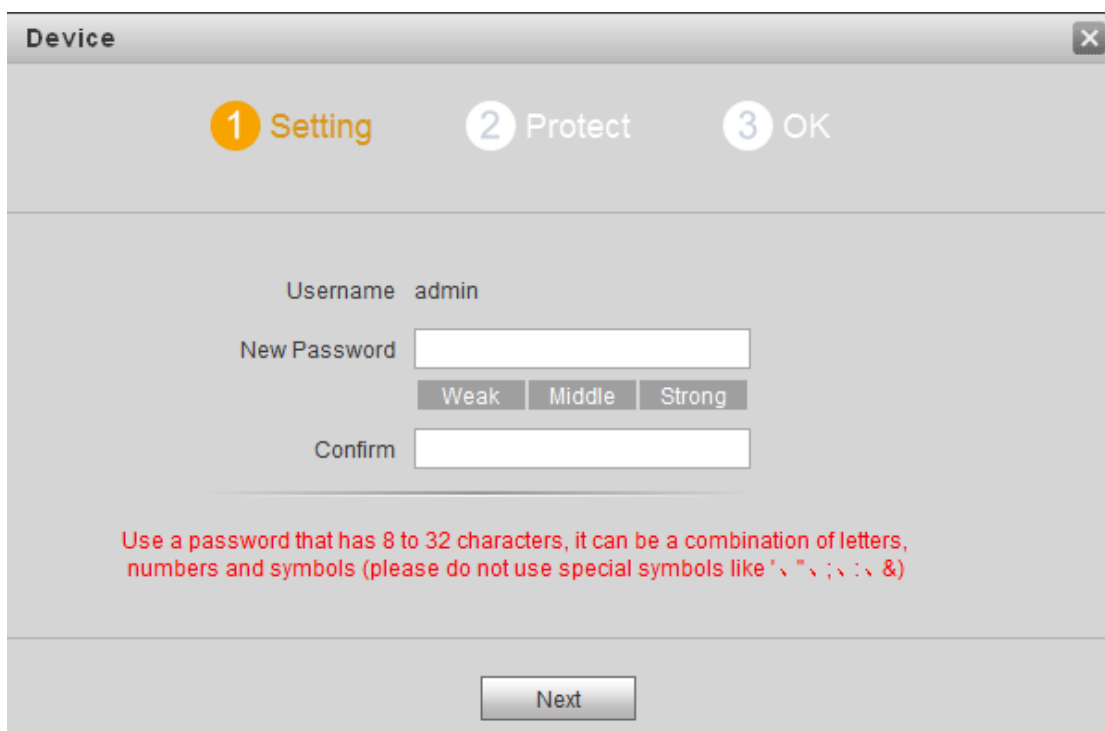

Figure 2-3
Step 1 Power on the device, and enter default IP address of VTO at the address bar of PC browser. The system displays “Setting” interface, as shown in Figure 2-3.